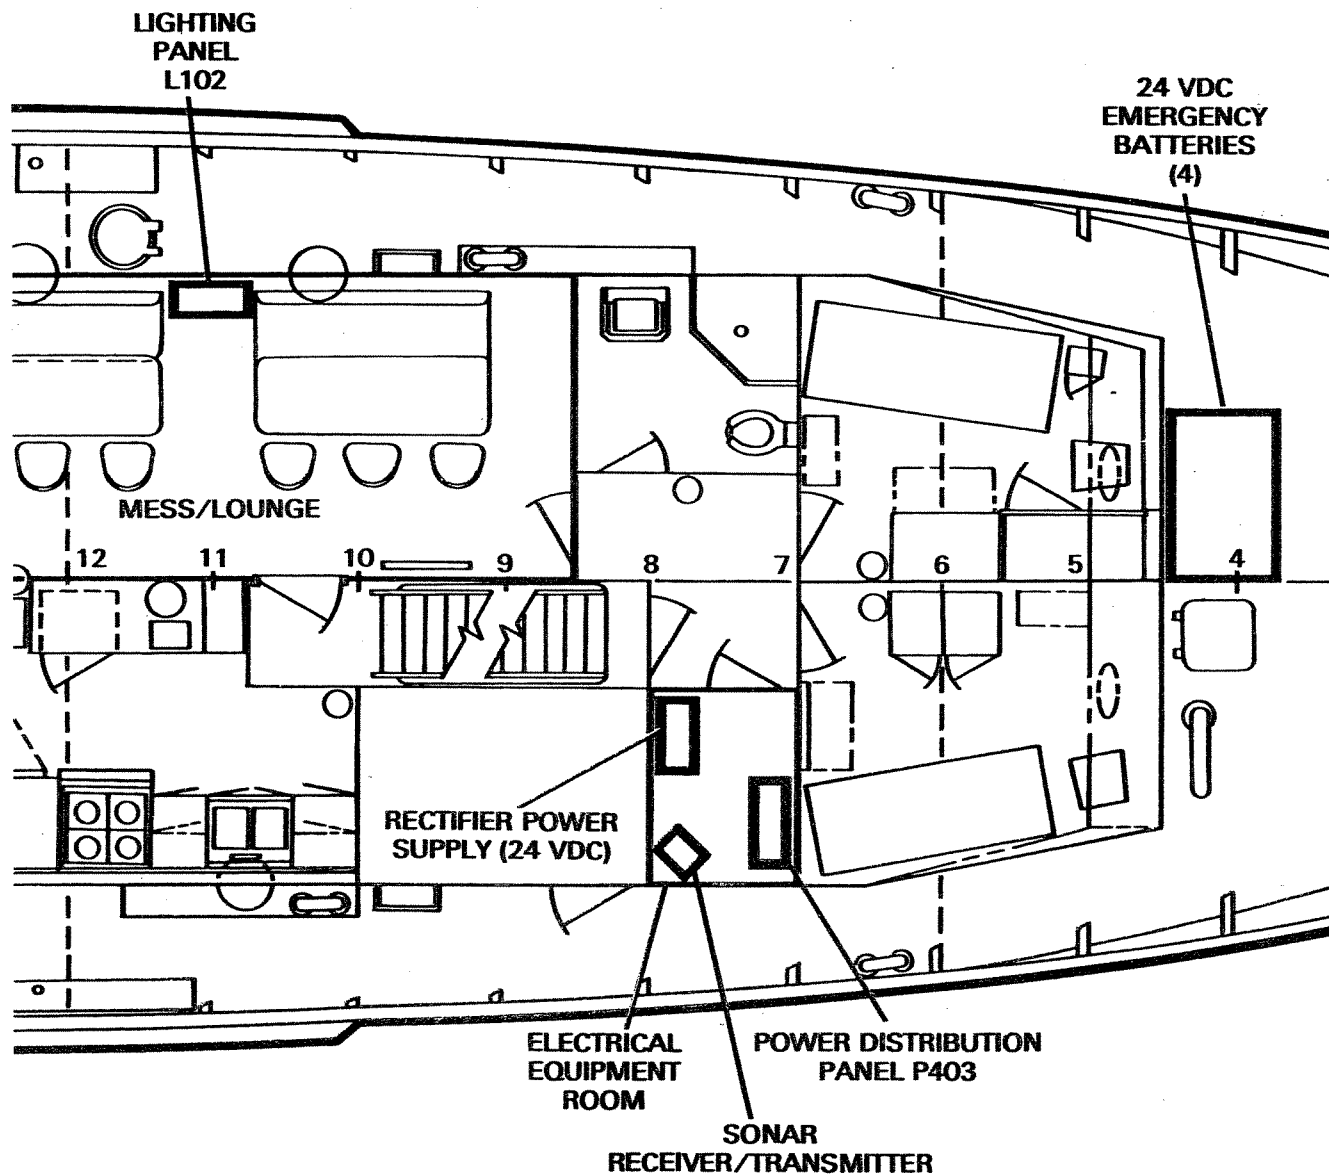

Figure 2-20. Location of Electrical Power Distribution Components in Electrical Equipment Room and Main Deck
5. The 440 volt AC distribution panel P403 located in the electrical equipment room at frame 7, starboard (Figure 2-20).
9. The pilothouse equipment rectifier power supply located in the electrical equipment room at frame 8 (Figure 2-20).
10. Four 24 VDC emergency batteries located on the main deck at frame 4-1/2 (Figure 2-20).
12. The galley 120 volt distribution panel L102 located in the mess/lounge area at frame 9, port side (Figure 2-20).
13. The engine room 120 volt distribution panel L103 located at frame 16, port side of centerline (Figure 2-20).